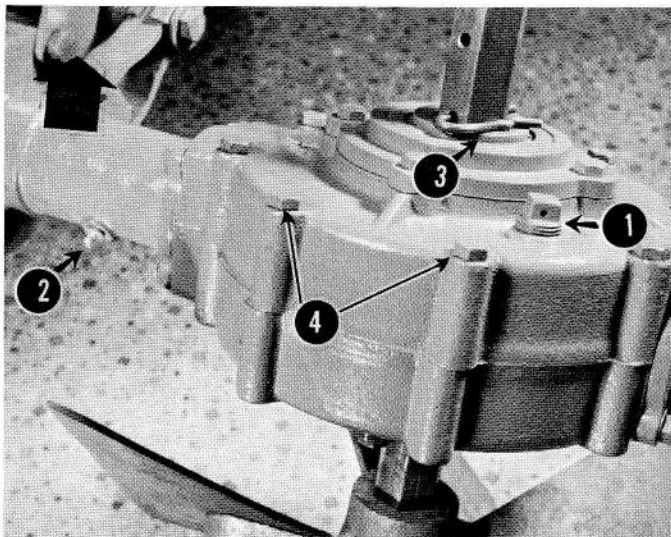

Figure 23
The Rotary Plow is attached to the Tractor by two Nuts and two Bolts. One Bolt and one Nut must be used to attach the Angle Adjusting Bracket, upperleft in Figure 23.
Use occasionally General Purpose Grease in the swivel casting grease fitting, (2 in Figure 23).
Use the pin or clip, (3 in Figure 23), in the Hex Shaft for initial Cutting depth adjustment. The higher on the Shaft the Pin is inserted, the greater the depth of cut and vice versa. Ordinarily, the Pin is inserted in one of the top holes for plowing and in the bottom hole for transporting.
The Dirt Shield is attached to the top of the Gear Housing by removing the bolts, (4 in Figure 23), inserting them through the Shield, and replacing in the Gear Housing. You can use the Dirt Shield to direct the throw of the dirt, by bending it up or down.
1. Leave the Plow Angle Adjusting Assembly (upper left in Figure 23) attached.